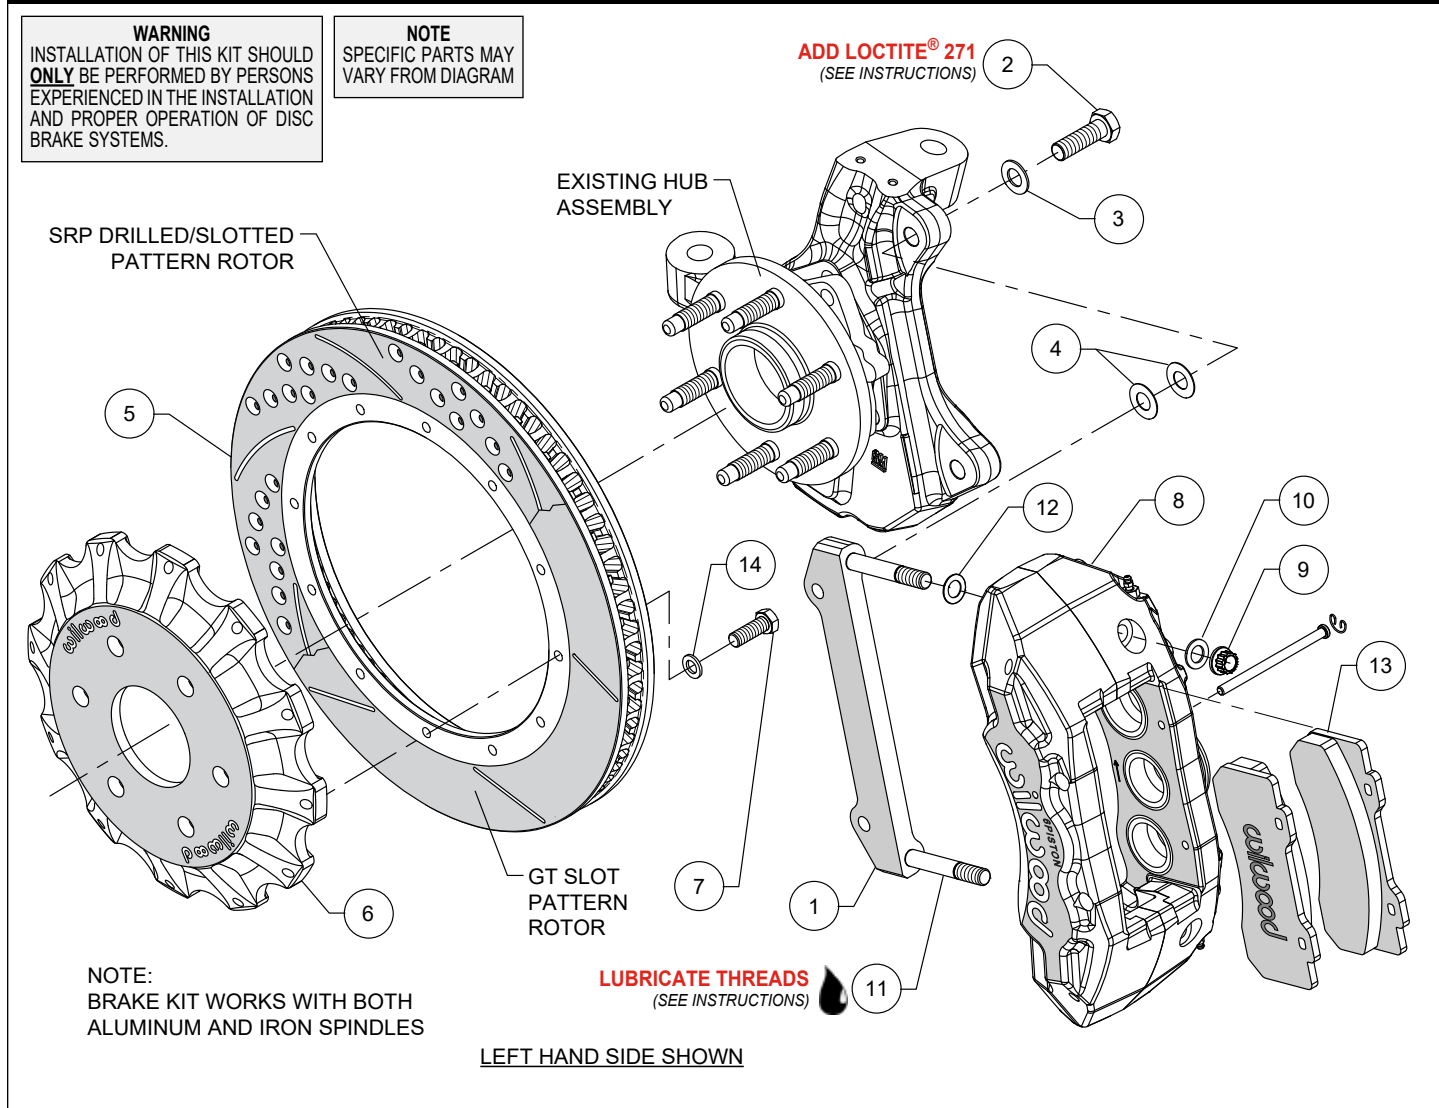
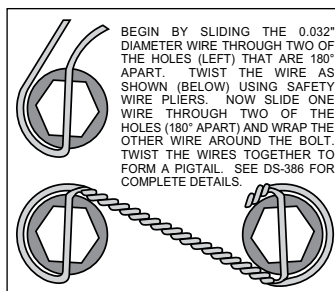

Figure 1. Typical Installation Configuration
Figure 3. Safety Wire Diagram
NOTE: Numbers in parenthesis refer to the parts list and Figure 1 on the preceding pages.
- The caliper mount bracket (1) should initially be installed with clean, dry threads on the mounting bolts. Orient the bracket as shown in Figure 1 and Photo 1, and install using bolts (2) and washers (3). Initially place two .029 thick shims (4) on each bolt between the bracket and upright, Figure 1. Temporarily tighten the mounting bolts. **NOTE:** The bracket must fit squarely against the mount bosses on the upright. Inspect for interference from casting irregularities, machining ridges, burrs, etc. Later, after the caliper alignment has been checked, the mount bolts will be secured using red *Loctite*® 271.
- Orient the rotor (5) and the hat (6) as shown in Figure 1 and Photo 2. Attach rotor to hat using bolts (7) and washers (14). Apply red *Loctite*® 271 to the bolt threads and torque to 25 ft-lbs using a criss-cross pattern. For an added measure of security, the bolts may be safety wired using standard 0.032 inch diameter stainless steel safety wire as shown in Figure 3. Please refer to Wilwood's data sheet DS-386 (available at www.wilwood.com/Pdf/DataSheets/ds386.pdf) for complete safety wire installation instructions.
- NOTE:** This kit contains distinct right and left hand calipers that must be mounted in a specific direction, as described below. Lubricate the caliper mounting studs (11) with lightweight oil. Initially place one .032" thick shim (12) on each stud as shown in Figure 1 and Photo 3. Mount the caliper (8) onto the bracket (1) using lock nuts (9) and washers (10), Figure 1. Ensure that the caliper is mounted so that the largest pistons are at the rotor exit end of the caliper, in relation to the direction of rotor rotation. Temporarily tighten the lock nuts and view the rotor through the top opening of the caliper. The rotor should be centered in the caliper, Photo 4. If not, adjust by adding or subtracting shims (4) between the bracket and the upright. Always use the same amount of shims on each of the two mounting bolts. Once the caliper alignment is correct, remove the bracket mounting bolts (2) one at a time, apply red *Loctite*® 271 to the threads, and torque to 105 ft-lb.